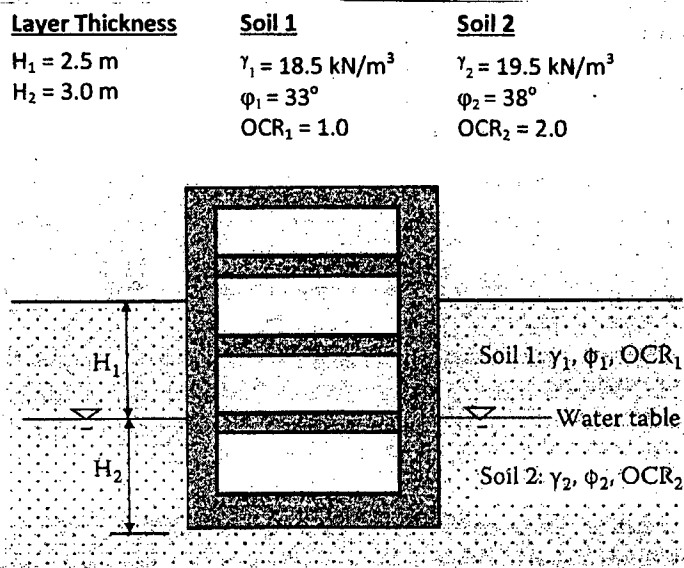

Fig. 1 Illustration for Question No. 7
7. What are the basic considerations of Rankine and Coulomb theories of earth pressure? Draw the lateral pressure distribution diagram and compute the total lateral thrust coming to the basement wall as shown in Fig. 1 with the given data. (23 1/3)